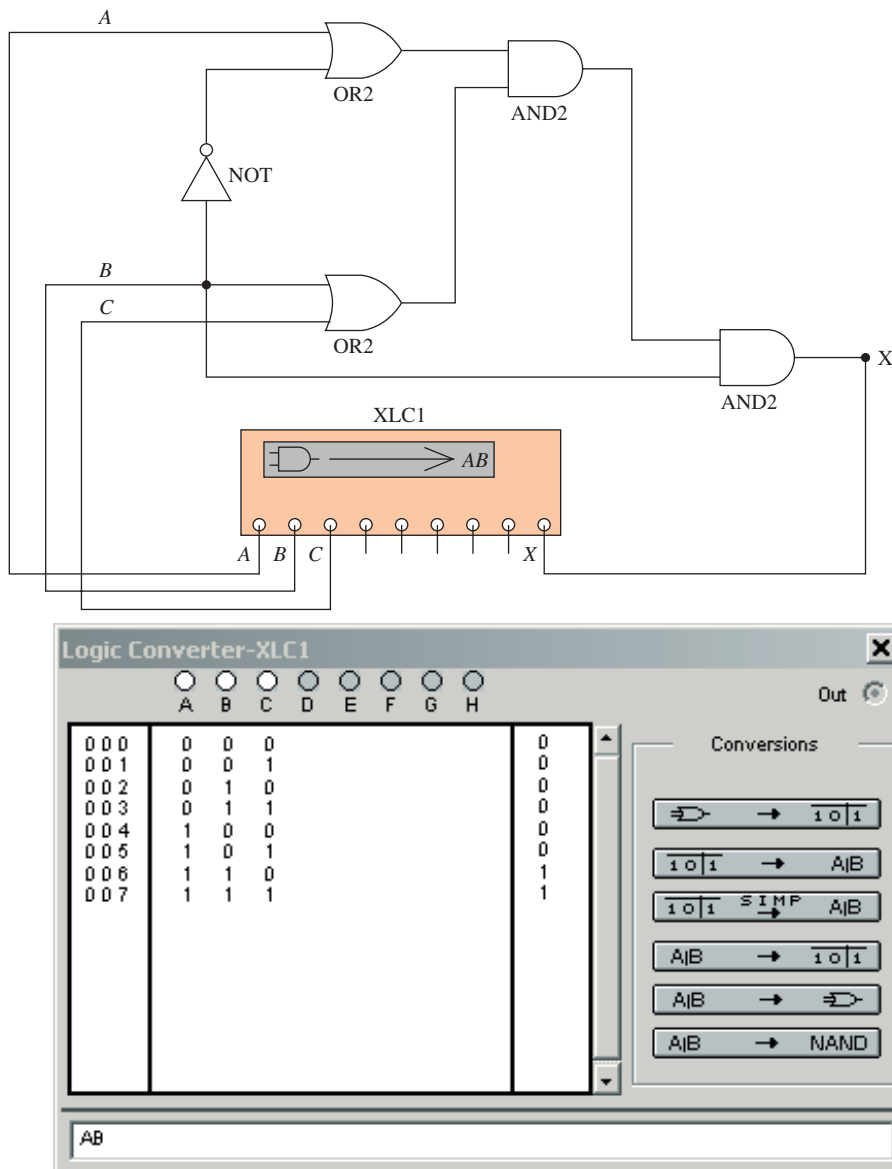

Figure 5–29 Using MultiSIM[®] to simplify the combinational logic circuit of Example 5–9.
The MultiSIM[®] Logic Converter is used in Figure 5–29 to simplify the circuit of Figure 5–28(a). The simplified equation that it determines for X is AB as shown in the lower box of the Logic Converter.
- (a) Use MultiSIM to open the file *fig5_29* from the textbook companion website. Double-click on the Logic Converter symbol (XLC1) to expand its size. To have MultiSIM simplify the circuit, press the first button under **Conversions** to create a truth table. Press the second button to
Part of the compilation process performed by the Quartus® II software is to determine the simplest form of the circuit before it synthesizes its logic. This eliminates unnecessary inputs and minimizes the number of gates used in the FPGA. If we redo Example 5–9 using Quartus® II, the software will warn us of unused inputs and will also give us the final simplified equation. The VHDL program, *ex5_9.vhd*, is given in Figure 5–30(a). The original Boolean equation $X = [(A + \overline{B})(B + C)]B$ is entered in VHDL as $x <= ((a \text{ OR NOT } b) \text{ AND } (b \text{ OR } c)) \text{ AND } b$;. The Waveform Editor was used to create the vector waveform file (*ex5_9.vwf*) shown in Figure 5–30(b). If you study the results carefully you will see that x only goes HIGH when a and b are both HIGH, regardless of c .
When the *ex5_9.vhd* program was compiled, the Compilation Report produced the warning message shown in Figure 5–31. As you can see, it tells us that after simplifying the equation, there is no output that is dependent on pin c . This is the same result that we got in the reduction performed in Example 5–9.
Note: To view the Compilation Report of Figure 5–31: